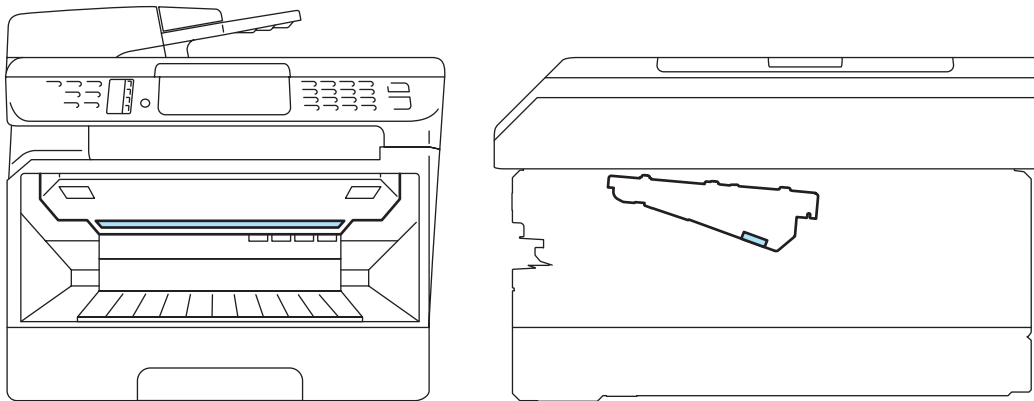

Fig. 1-6
- Clean the scanner windows of the laser unit with a soft lint-free cloth. (Refer to Fig. 1-6.)